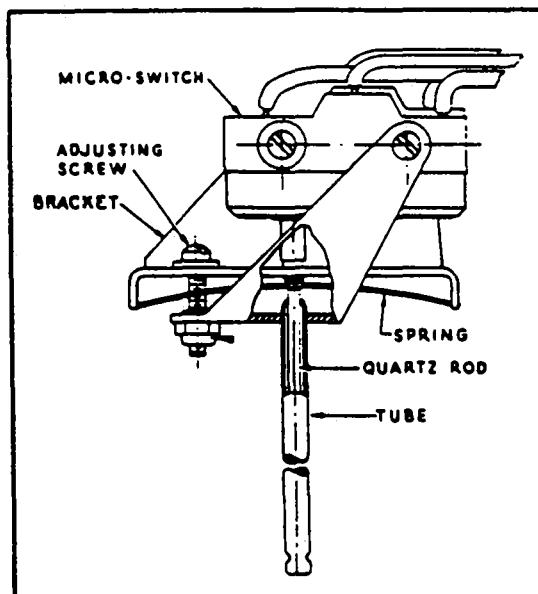

Figure 13-9. Flame Detector Switch (Cutaway View)
**13-21. FLAME DETECTOR SWITCH.** The purpose of the flame detector switch is to shut off the igniter and fuel preheater as soon as combustion has been established within the heater, and to provide a "purge" cycle after the heater is shut off. This switch consists of a hollow probe upon which is mounted a bracket and micro switch mechanism. The hollow probe contains a quartz rod which has a low rate of expansion when heated. (Refer to Figure 13-9.) The end of the quartz rod actuates the plunger of the micro switch. A leaf spring between the rod and plunger is provided to maintain a pressure through the rod against the end of the tube.
- b. Back off the adjusting screw (Refer to Figure 13-9.) until the switch clicks.